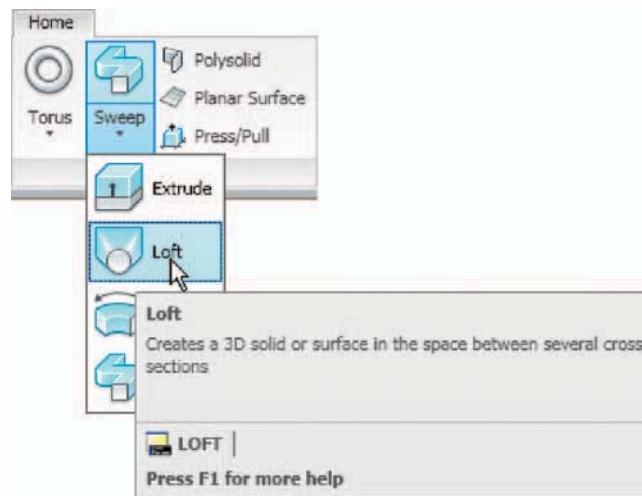

Fig. 12.42 Selecting the **Loft** tool from the **Home/Modeling** panel
3. Call the **Loft** tool with a *click* on its tool icon in the **Home/Modeling** panel (**Fig. 12.42**).